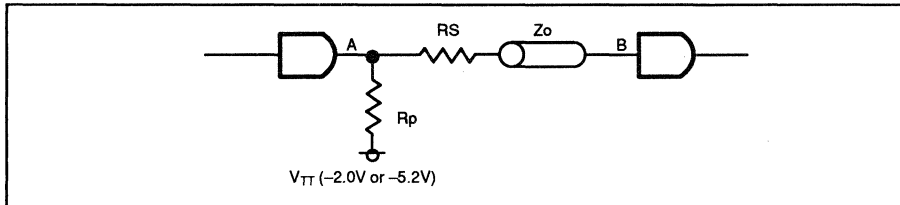

Figure 8. Series Termination
Overshoot and ringing on longer lines may be controlled by using series damping or series terminating techniques. Series damping is accomplished by inserting a small resistor  $R_s$  in series with the output of the gate as shown in Figure 8. In this case, the value of  $R_p$  is such that it can drive 5 to 15 mA of current. As for  $V_{TT}$ ,  $-2.0 \text{ V}$  is not compulsory, hence  $-5.2 \text{ V (10K)}$  can be used. It is mandatory that  $R_s$  be equal to  $Z_o$ . Signal transmitted from (A) is reflected at (B). But due to the presence of  $R_s$  ( $R_s=Z_o$ ), this signal is not seen at (B). The advantage of this method is that the power does not increase as much as in the parallel termination method even when multiple lines are connected to (A).